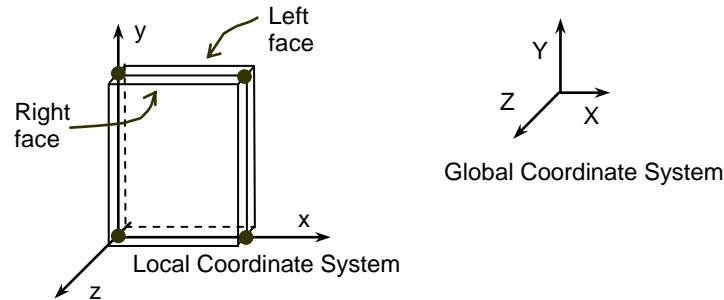

Figure 2-4 Plate Element
The rectangular plate finite element has four nodes, one at each corner, as shown in Figure 2-4. Each node has six degrees of freedom (D_x , D_y , D_z , R_x , R_y , and R_z). The rotation, R_z , is referred to as the drilling rotation (ref. 1).
When locating reinforcement within a plate element, the program refers to the left face and right face. The left face of the panel is defined as the face to the left of the plate centerline when looking along the positive X-axis. See Figure 2-4.